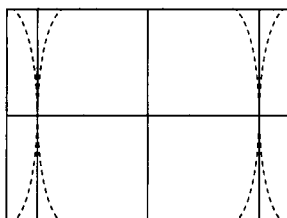

Fig. E6
- Use the arrow keys “◀” and “▶” to adjust the left and right hand vertical lines to minimum distortions (see Fig. E6).